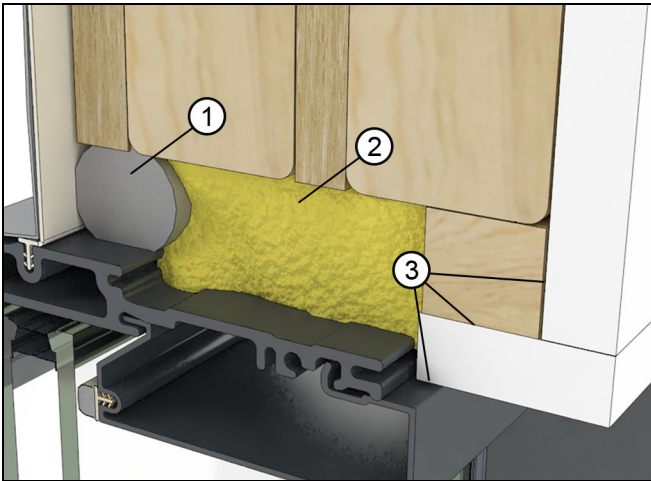

Figure 70
1. Apply insulation in the rough opening, against the backer rod installed earlier. See Figure 70.
2. Apply a continuous bead of sealant around the interior perimeter. **Seal all joints where drywall returns to the window frame.** See Figure 70.